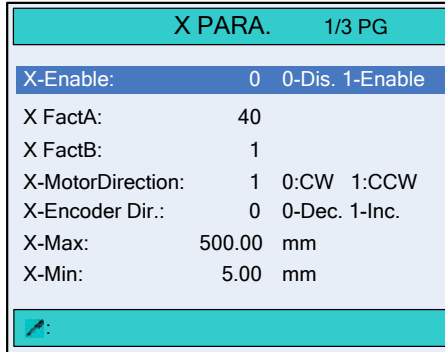

Figure 3-7 The first page of **X PARA.**
On the **SYS PARA.** page, move the cursor to parameter **2.X AXIS PARA** (or press the number key 2), and press  to enter the first page of the **X PARA.**, as shown in Figure 3-7.